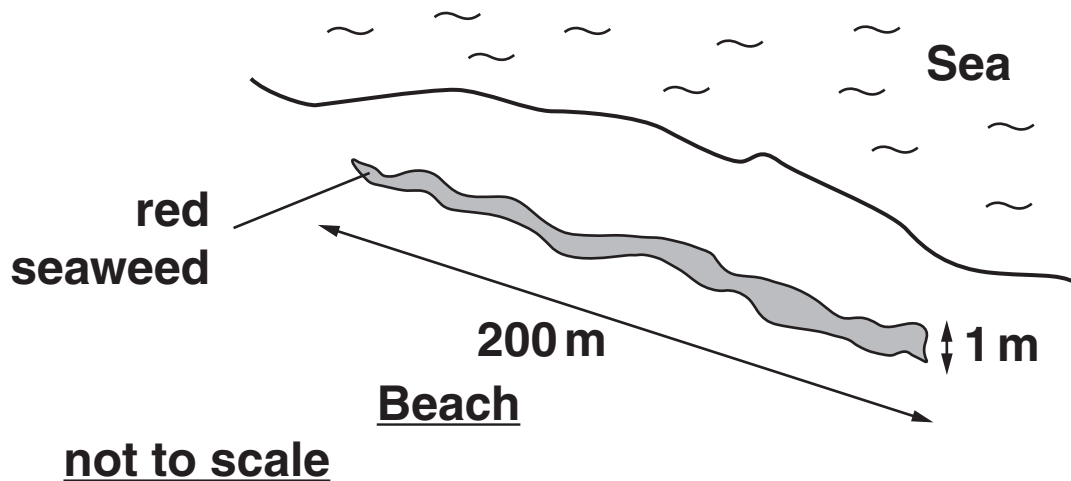

Fig. 1.3
- 1 After a storm, a quantity of red seaweed is washed up on a beach, Fig. 1.3.